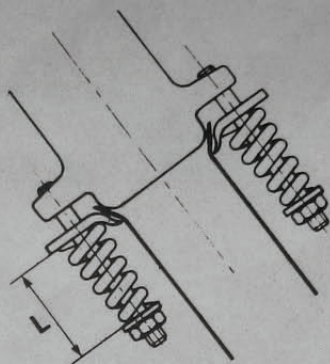

Fig. 3.29 Exhaust front pipe flange tension spring dimension (Sec 19)
9 Refitting the manifold assembly is the reverse sequence to removal. Ensure that the cylinder head and manifold mating faces are clean and use a new gasket. Tighten the manifold nuts to the specified torque and tighten the front pipe flange nuts so that the springs are compressed as shown in Fig. 3.29. Refit the carburettor, as described in Section 16.
- 17 Refitting is the reverse sequence to removal. Ensure that the cylinder head and manifold mating faces are clean and use a new gasket. Tighten the manifold nuts and bolts to the specified torque and tighten the front pipe flange nuts so that the springs are compressed as shown in Fig. 3.29. Refit the carburettor, as described in Section 16.
7 Refitting is the reverse sequence to removal. Position the joints so that there is adequate clearance between all parts of the system and the underbody, and ensure that there is equal load on all mounting blocks. When refitting the front section tighten the front pipe flange retaining nuts so that the tension springs are compressed as shown in Fig. 3.29. The springs must not become coil bound.